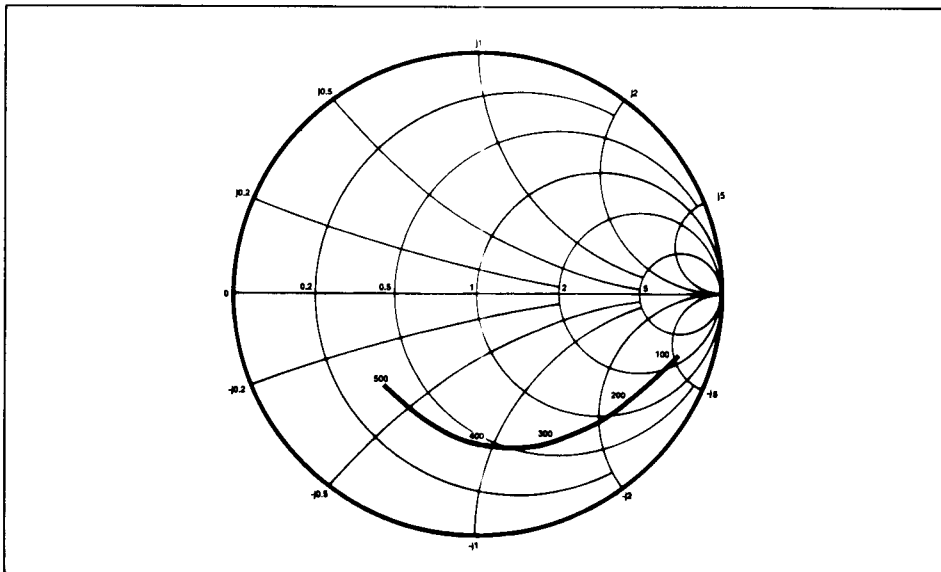

Fig.4 Typical input impedance. Test conditions: supply voltage 5.0V, ambient temperature 25°C, frequencies in MHz, impedances normalised to 50 ohms.
9. The input impedance of SP8906 is a function of frequency. See Fig. 4.